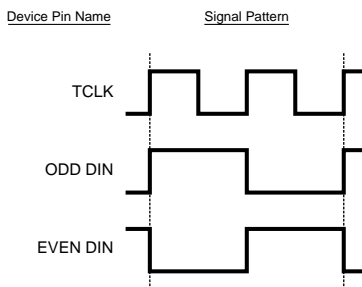
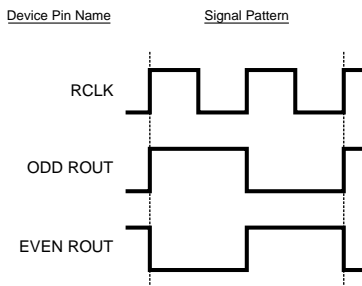
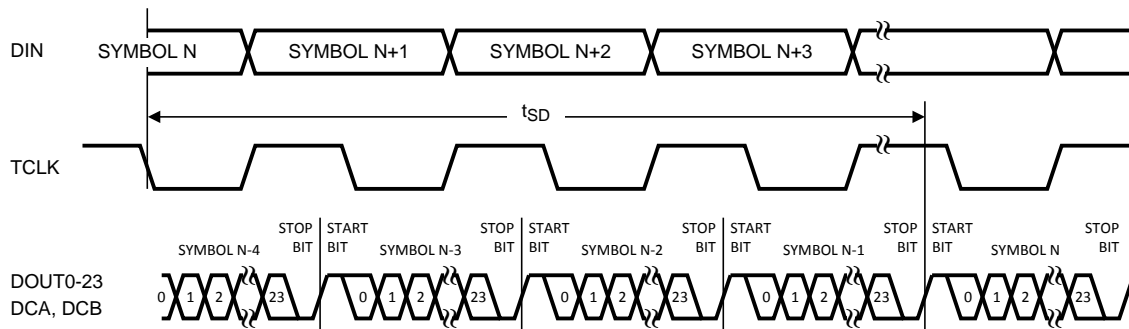

Figure 1. Serializer Input Checker-board Pattern
Figure 2. Deserializer Output Checker-board Pattern
Figure 8. Serializer Delay
| I DDT   | Serializer (Tx)Total Supply Current(includes load current)      | R L = 100ΩVODSEL = LChecker-board pattern (Figure 1) (6)    | f = 40 MHz                                |      | 40   | 80   | mA    |
|  |   | R L = 100ΩVODSEL = HChecker-board pattern (Figure 1) (6)    | f = 40 MHz                                |      | 40   | 85   | mA    |
| I DDR   | Deserializer (Rx)Total Supply Current(includes load current)    | C L = 8 pF LVCMOS OutputChecker-board pattern(Figure 2) (6) | f = 40 MHz                                |      |      | 95   | mA    |
(5) Digital, PLL, and Analog VDDs
(6) Figure 1, Figure 2, Figure 8, Figure 12, Figure 14 show a falling edge data strobe (TCLK IN/RCLK OUT).
| $t_{SD}$   | Serializer Delay                     | $R_L = 100\Omega$ , (Figure 8) (3)VODSEL = L, TRFB = H           |     | 3.5T + 2.85 | 3.5T + 10 | ns                |
|            |                                      | $R_L = 100\Omega$ , (Figure 8) (3)VODSEL = L, TRFB = L           |     | 3.5T + 2.85 | 3.5T + 10 | ns                |
(1) Specification is guaranteed by characterization and is not tested in production.
(2) When the Serializer output is at TRI-STATE, the Deserializer will lose PLL lock. Resynchronization MUST occur before data transfer.
(3) Figure 1, Figure 2, Figure 8, Figure 12, Figure 14 show a falling edge data strobe (TCLK IN/RCLK OUT).
(5) UI – Unit Interval, equivalent to one ideal serialized data bit width. The UI scales with frequency.